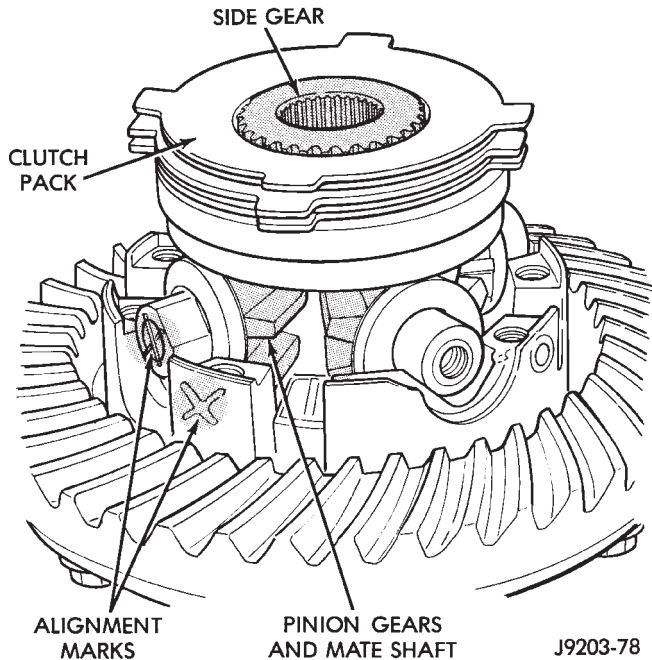

Fig. 53 Clutch Pack Installation
(3) Install pinion mate shafts and pinion mate gears (Fig. 53). **Make sure shafts are correctly installed according to the alignment marks.**